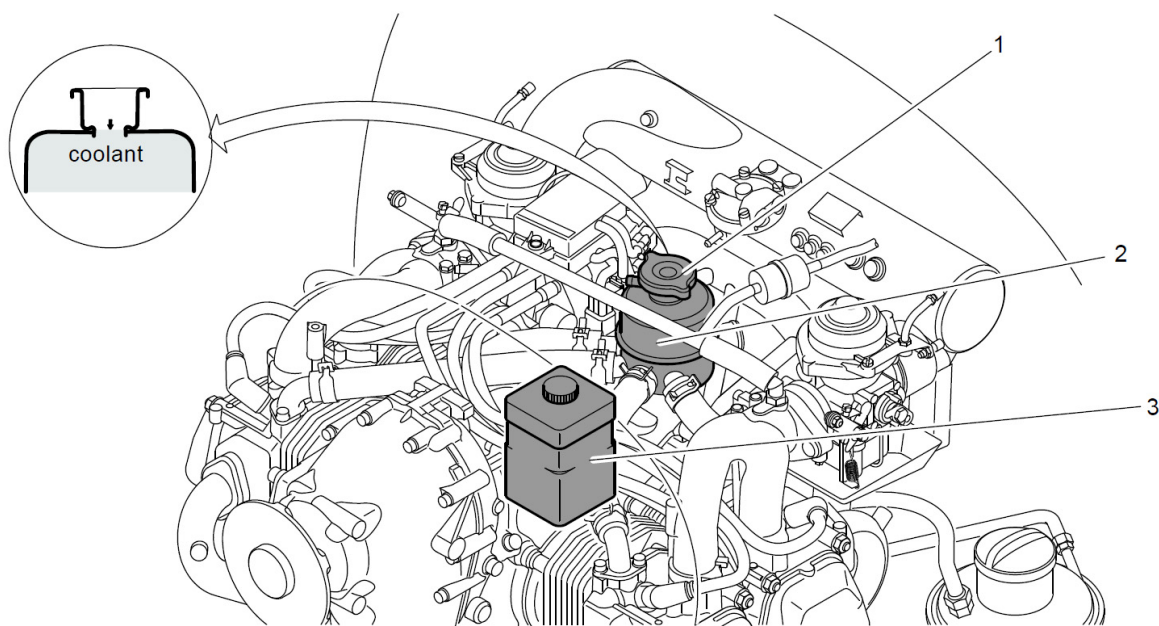

Figure 5.2: Coolant level check
There is a coolant expansion tank Fig. 5.2 [2] and a coolant overflow bottle Fig. 5.2 [3] installed in the engine compartment. Make sure you correctly identify the coolant expansion tank. The cap Fig. 5.2 [1] of the coolant expansion tank must be removed carefully. Hot fluids will burn you.
- 1. Expansion tank Correct coolant level, see Fig. 5.2